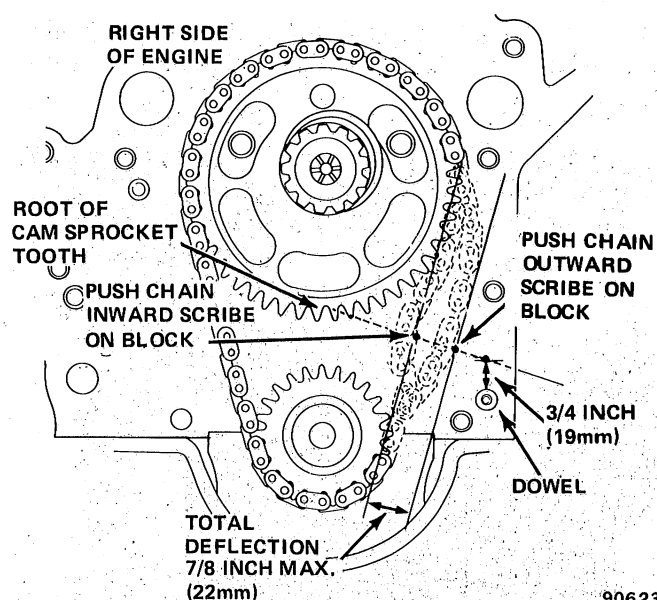

Fig. 1B-120 Timing Chain Wear Measurement
- (d) Move chain inward toward centerline of engine and mark engine block at point of maximum inward chain deflection (fig. 1B-120).
- (e) Move chain outward from centerline of engine and mark engine block at point of maximum outward chain deflection (fig. 1B-120).